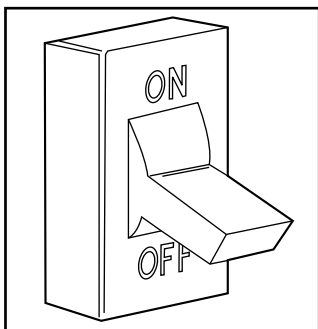

Fig. 18 - Turn Off Electrical Supply
3. Turn off electrical supply to the furnace. See Fig. 18.